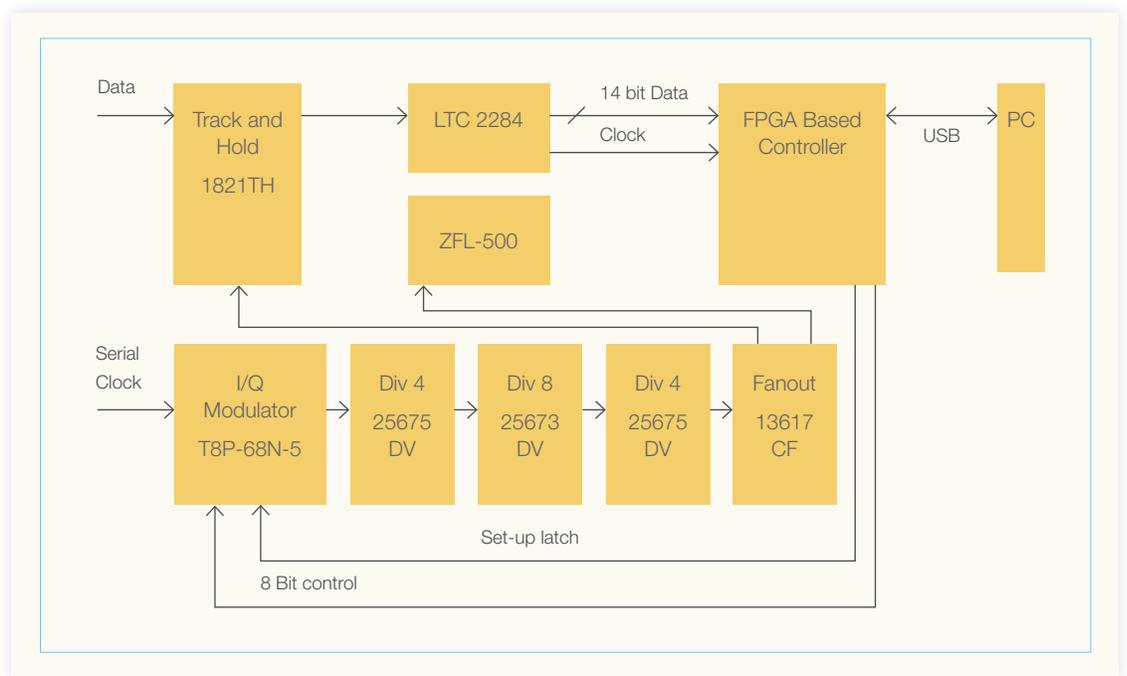

Fig 6.1 Lab demo set-up block diagram
**6.1: Demo Set-up and Measurement Results:** Fig 6.1 shows the block diagram of the lab demo set-up.